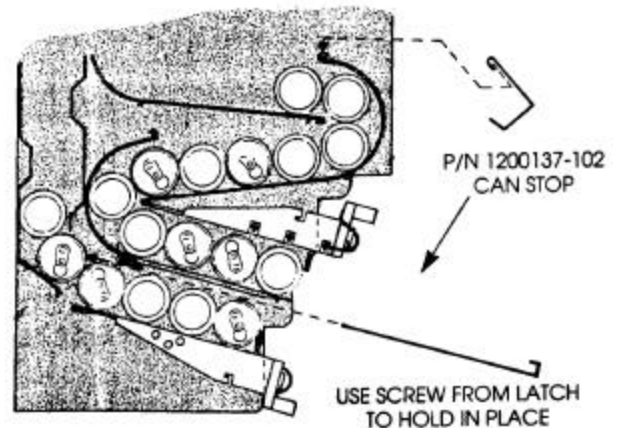

Figure 13. Lower Can Stop
4. Insert the Lower Can Stop (P/N 1200137-102). Slide the can stop all the way in and screwing down the fastener. See **Figure 13**.